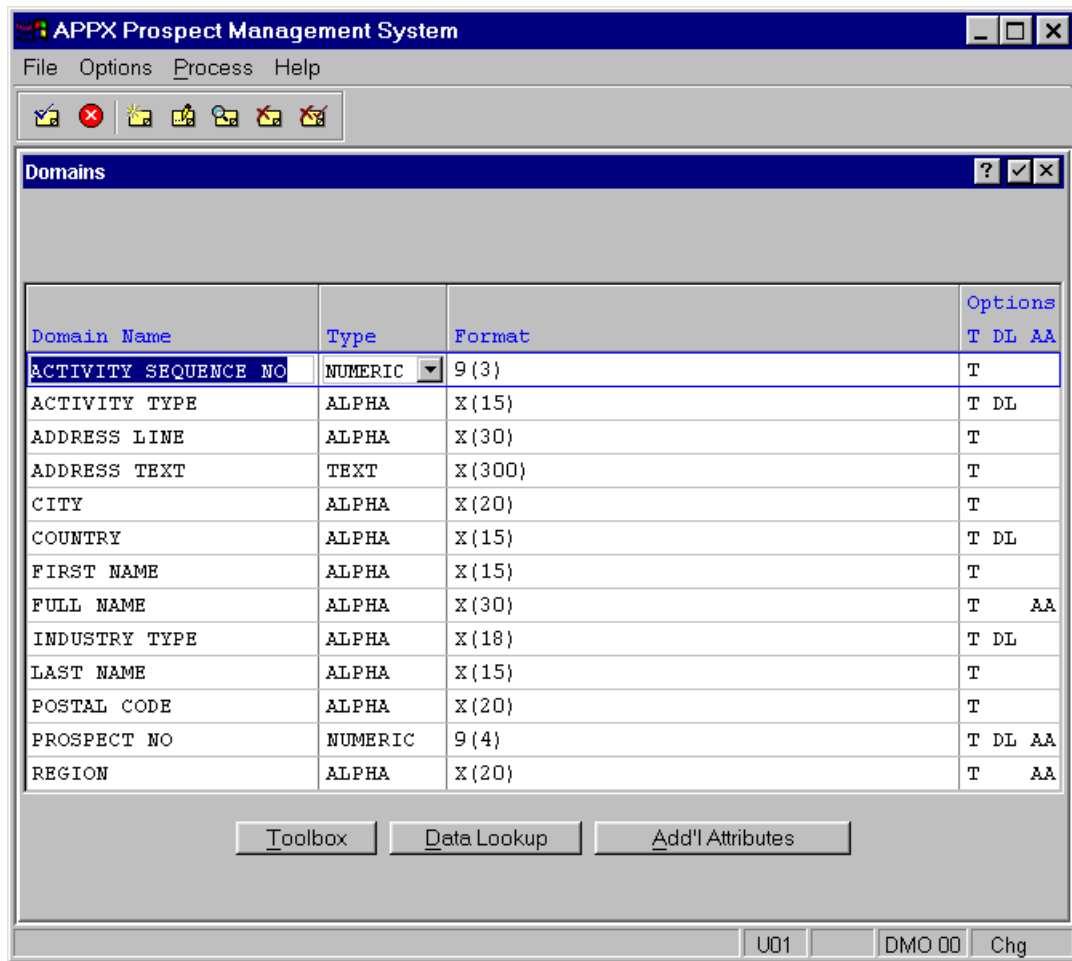

Figure E1.2 – Scrolling List of Domains
- Select the **Domains** option by clicking on the **Domain** button or by pressing **Alt + D**. A scrolling list of domains is displayed (*Figure E1.2*).